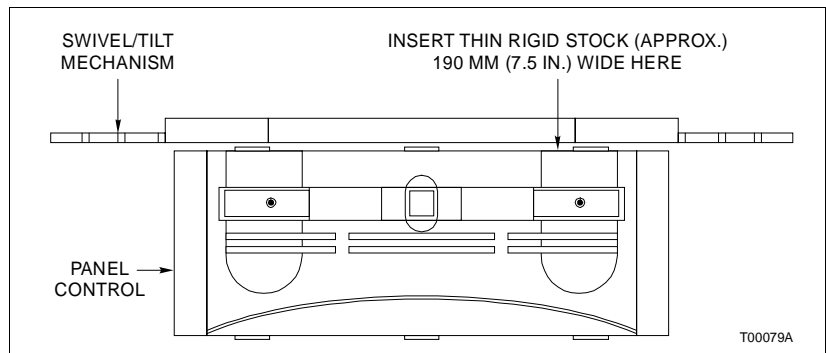

Figure PR62-1. Panel Control Replacement
1. Insert the thin rigid piece of stock into the space above the panel control (Fig. PR62-1).